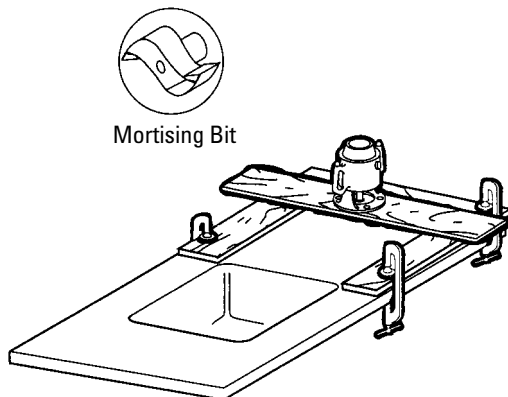

Figure 38
1. Leave the perimeter rout template in place (see Figure 38).
2. Use a hinge mortising bit in a router with an extended base plate (see Figure 38).